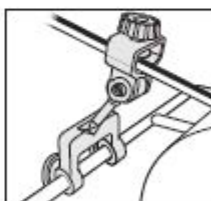

Fig 4
4. With the tool secured in the tool holder (B), place the shaft (E) in the recess of the support arm mount. The support arm must then be moved to a position which allows the tool to be applied to the sharpening wheel at the correct angle, meaning that as much of the edge of the tool should come into contact with the stone as possible. See Fig 4.